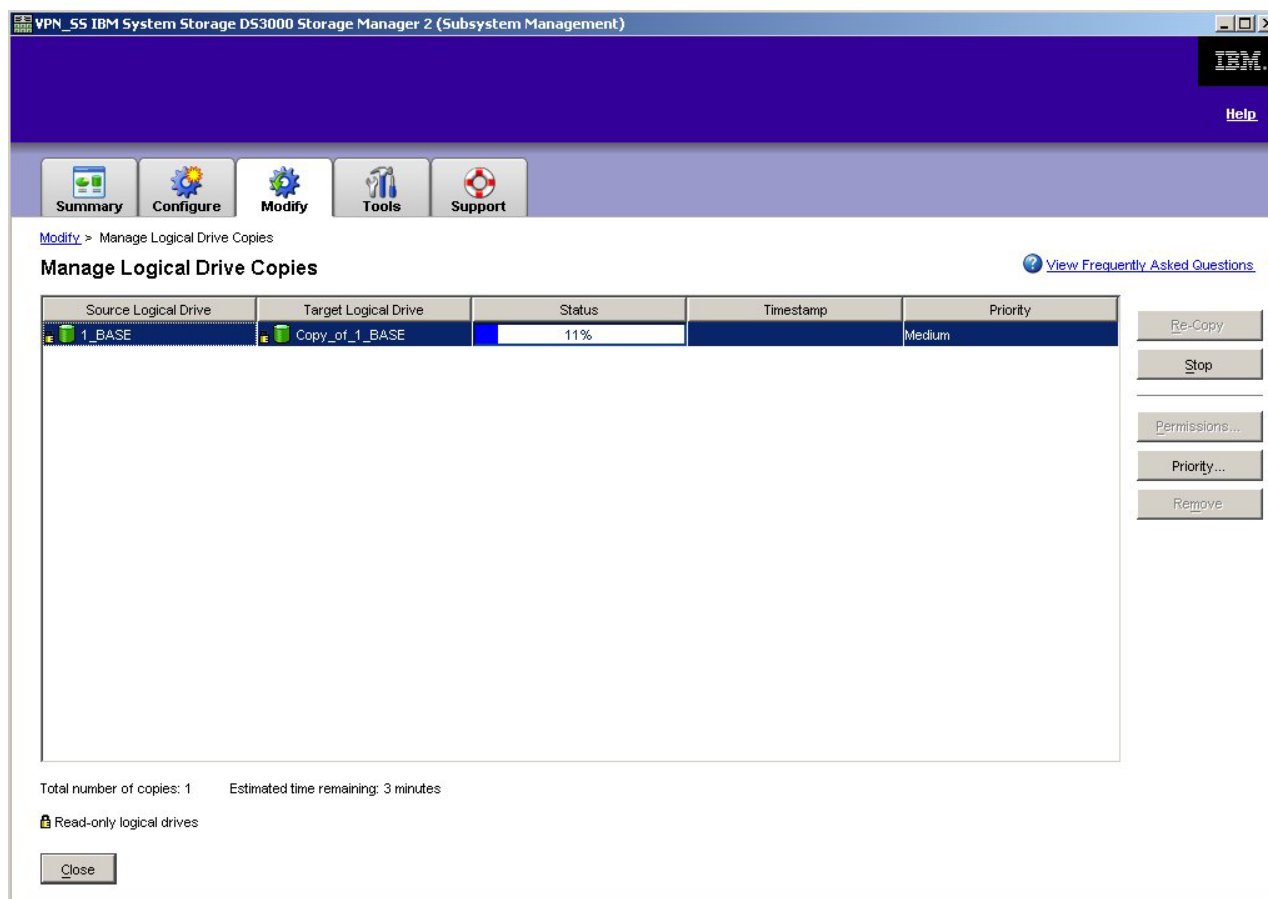

Figure 28. Manage Logical Drive Copies window
**Note:** To manage created VolumeCopy logical drives, click **Modify → Manage Logical Drive Copies**. A list of VolumeCopy requests is displayed. For each VolumeCopy, select **Re-Copy** or **Stop**, and to modify attributes, select **Permissions** and **Priority**. Figure 28 shows this tool.